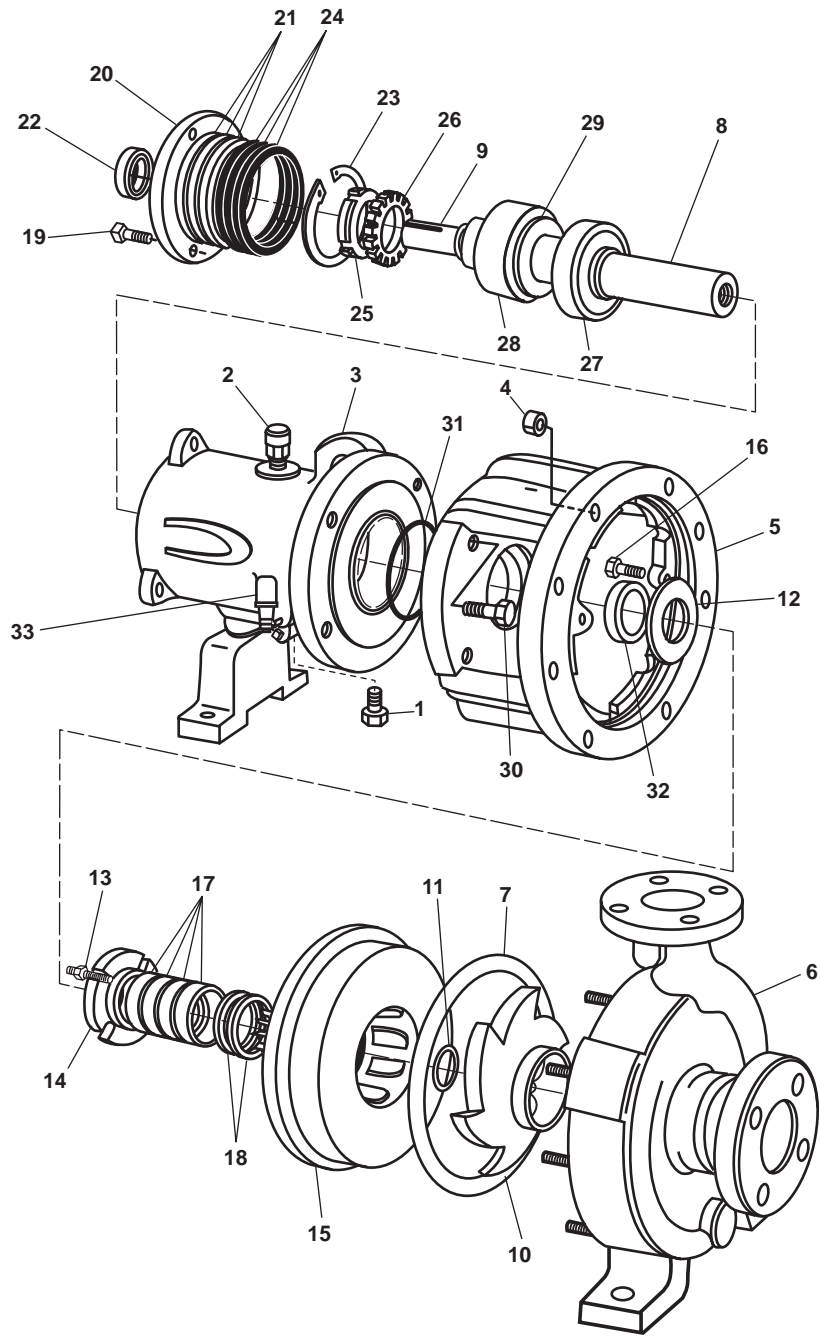

Figure 1. Sewage Discharge Pump Assembly
1. Place a suitable drain pan under the pump's drain plug (figure 1, item 1). Remove the drain plug and drain all oil from the pump.
2. Remove the vent plug (figure 1, item 2) from the bearing housing (figure 1, item 3).
3. Remove the eight casing nuts (figure 1, item 4) securing the bearing housing adapter (figure 1, item 5) to the pump casing (figure 1, item 6).
4. Separate the bearing housing adapter (figure 1, item 5) from the pump casing (figure 1, item 6) and remove the rear cover gasket (figure 1, item 7). Discard the rear cover gasket.
5. Install the impeller wrench onto the shaft (figure 1, item 8) and the key (figure 1, item 9).
6. Turn the impeller (figure 1, item 10) in the clockwise direction and move the impeller wrench in the 11:00 o'clock position. Quickly spin the impeller in the counterclockwise position causing the impeller wrench to impact the hard surface of the workbench. Refer to figure 2.
7. Unscrew the impeller (figure 1, item 10) and remove it from the shaft (figure 1, item 8).
8. Remove the impeller gasket (figure 1, item 11) from the shaft (figure 1, item 8). Discard the impeller gasket.
9. Remove the inboard deflector (figure 1, item 12) from the bearing housing adapter (figure 1, item 5).
10. Remove the four nuts (figure 1, item 13) securing the gland (figure 1, item 14). Slide the gland away from the rear cover plate (figure 1, item 15).
11. Install the brass shaft guide onto the shaft (figure 1, item 8).
12. Remove the two cap screws (figure 1, item 16) securing the rear cover plate (figure 1, item 15) to the bearing housing adapter (figure 1, item 5).
13. Slowly separate the rear cover plate (figure 1, item 15) from the bearing housing adapter (figure 1, item 5) and slide the rear cover plate off the shaft (figure 1, item 8).
14. Remove the packing set (figure 1, item 17) from the rear cover plate (figure 1, item 15). Discard the packing set.
15. Remove the two lantern rings (figure 1, item 18) from the rear cover plate (figure 1, item 15).
16. Remove the brass shaft guide from the shaft (figure 1, item 8).
17. Loosen the three bolts (figure 1, item 19) securing the bearing carrier (figure 1, item 20). Remove the bearing carrier.
18. Remove the bearing carrier gaskets (figure 1, item 21) from the bearing carrier (figure 1, item 20). Discard the gaskets.
19. Remove the outboard oil seal (figure 1, item 22) from the bearing carrier (figure 1, item 20). Discard the outboard oil seal.
20. Remove the bearing snap ring (figure 1, item 23) using snap pliers. Discard the snap ring.
21. Remove and retain the shims (figure 1, item 24) from the bearing housing (figure 1, item 3).